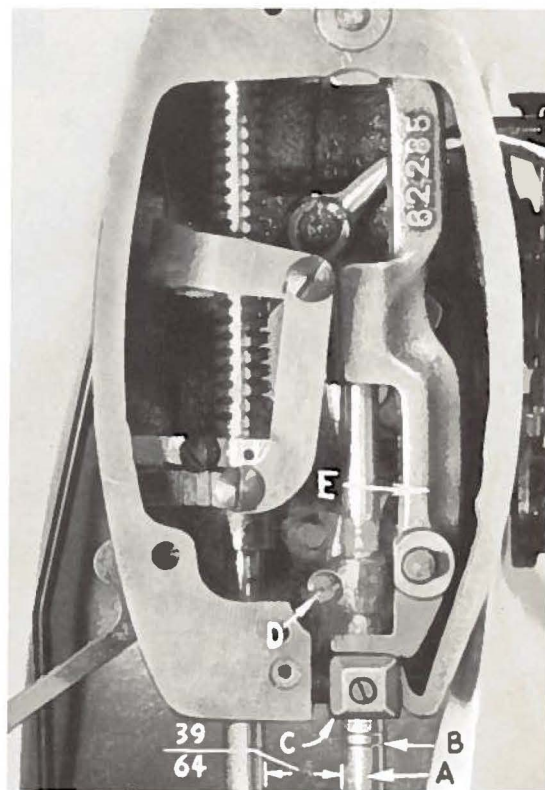
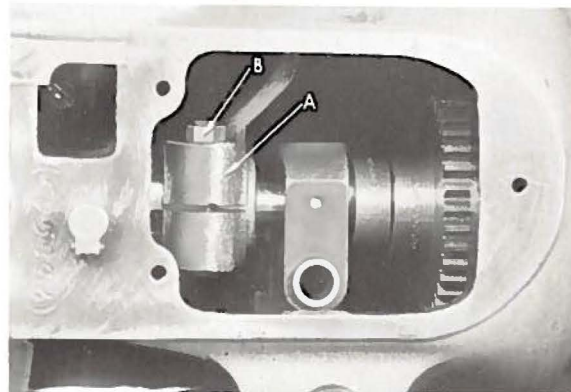

Fig. 7
Fig. 8
The setting of the needle bar (A, Fig. 7) to the proper needle bar height timing line will, in practically all cases, produce the optimum location of the needle loop with respect to the hook point for proper loop pick up.
A maximum "down" position of the needle bar may be established by turning the handwheel in the direction of operation until the crank pin and the needle bar connecting link align perpendicular behind the needle bar. (Looking into end as shown by Fig. 7, pin and link cannot be seen.)
Needle bar height adjusting is governed by the length of the needle used. Two sets of timing lines (B, Fig. 7) are engraved on every needle bar to assure accurate timing. The upper pair is used when Type 180 GL "short length" needles are specified, the lower pair is used with needle Type 182 GA "long length".
To position the needle bar in relation to the presser bar, first set the needle bar at the bottom of its stroke. Then, remove the top reservoir cover at the right end of the machine. Loosen clamp nut (B, Fig. 8) of the feed driving lever (A) and swing the needle bar frame (E, Fig. 7) forward or backward in the line of feed until the factory specified distance of $\frac{39}{64}$ inch is obtained between the needle bar and the presser bar. (Gauge No. 21227 BL is available for measuring this adjustment.) After needle bar meets required setting, tighten clamp nut (B, Fig. 8) and re-assemble cover.
Visually check position of the needles. Make sure their spots face their respective hooks. Now, turn handwheel in operating direction to obtain a maximum "down" position of the needle bar. When this has been reached, continue to turn until lower timing line (of the pair selected) (B, Fig. 7) is flush with the bottom of the lower needle bar bushing. At this time, the hook point should be approximately 1/32 inch above needle eye.